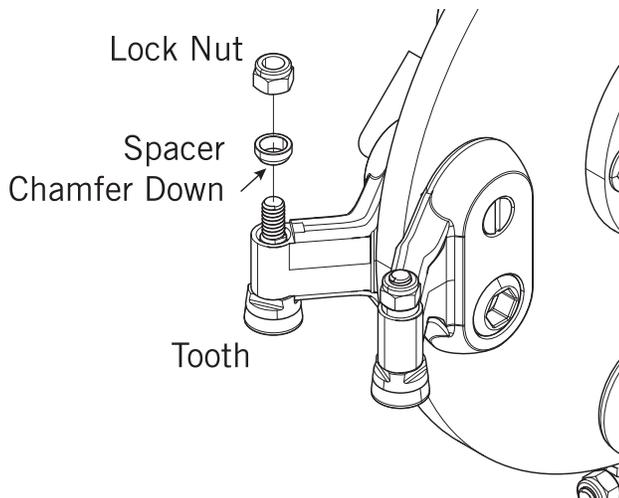
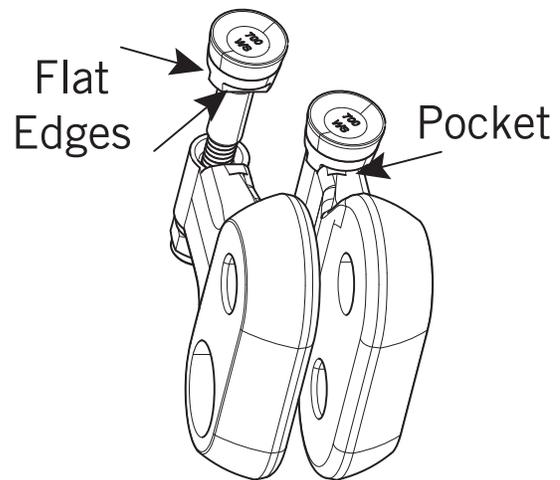

Figure 5.6.1
Figure 5.6.2
4. Install the teeth with the carbide facing down. The shoulder of the tooth will meet the flat indent of the pocket and the tooth will not rotate. See Figure 5.6.1. Insert the spacer over the shank, with the chamfer down, then thread one of the lock nuts onto the top portion of the tooth. See Figure 5.6.2. Hand tighten for now. Repeat until all teeth are installed.